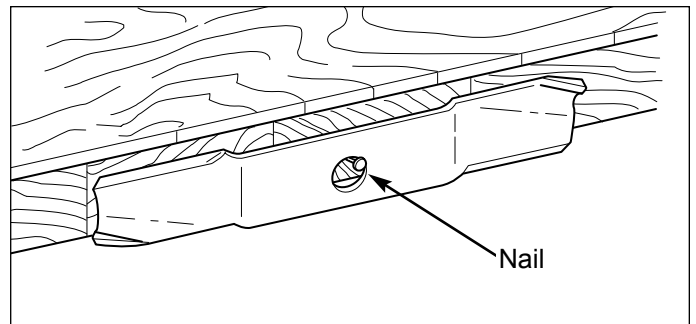

Figure 25. Balancing The Blade
5. Balance the blade as shown in Figure 25. Center the blade's hole on a nail lubricated with a drop of oil. A balanced blade will remain level.